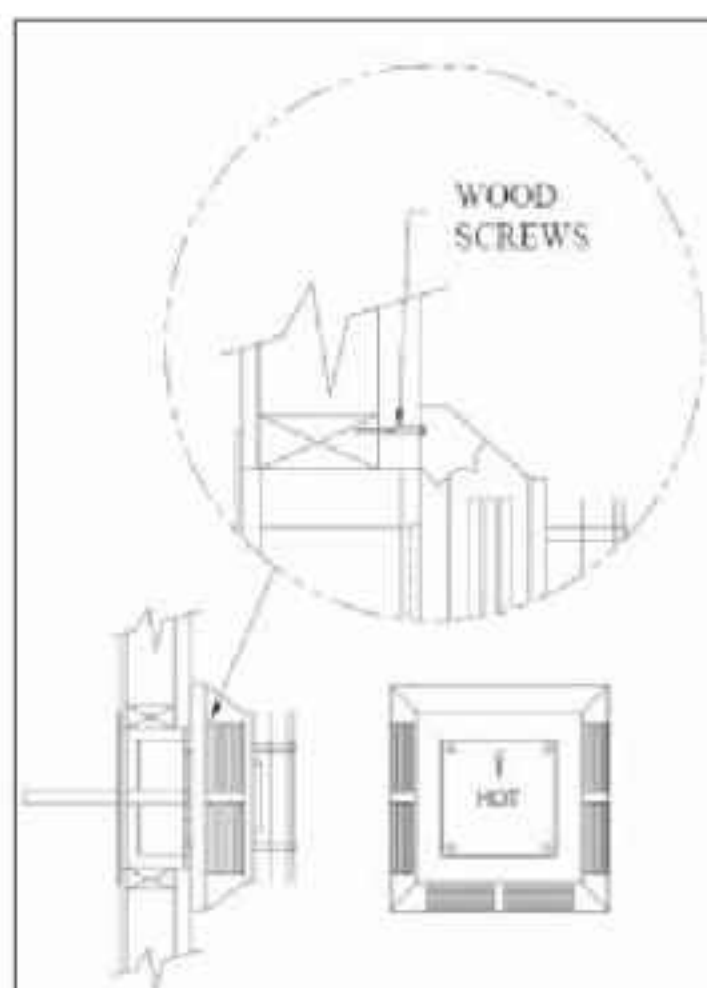

Figure 36: Fastening Horizontal Termination Cap in Place.
- (1) Any horizontal run of vent must have a ¼ inch (6mm) rise for every 1 foot (305mm) of run towards the termination. Never allow the vent to run downward. This could cause high temperatures and may present the possibility of a fire.
- (2) The location of the horizontal vent termination on an exterior wall must meet all local and national building codes, and must not be easily blocked or obstructed. Termination clearances must comply with the VENT TERMINATION RESTRICTIONS section.
- Step 4.** For a Square Horizontal Vent Termination, place the vent cap in the center of the square hole and attach to the exterior wall with the four wood screws provided (refer to Figure 36). Before attaching the Vent Termination to the exterior wall, run a bead of non-hardening sealant around its outside edges, so as to make a seal between it and the wall. If you are using a Round Horizontal Vent Termination, place an exterior Wall Firestop over the square hole. Run a bead of non-hardening sealant around the edges of the Wall Firestop, and attach the Wall Firestop to the wall with the four wood screws provided. The arrow on the vent cap should be pointing up. Ensure that proper clearances to combustible materials are maintained.